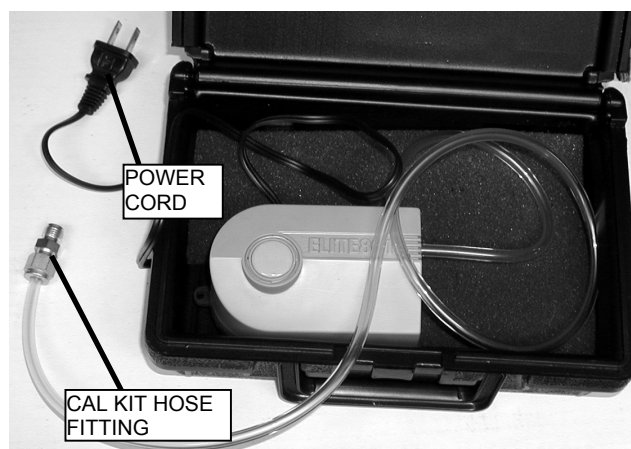

Figure 34. Analyzer Calibration Kit.
- i. Attach the hose to the fitting on the calibration kit hose (see Figure 34).